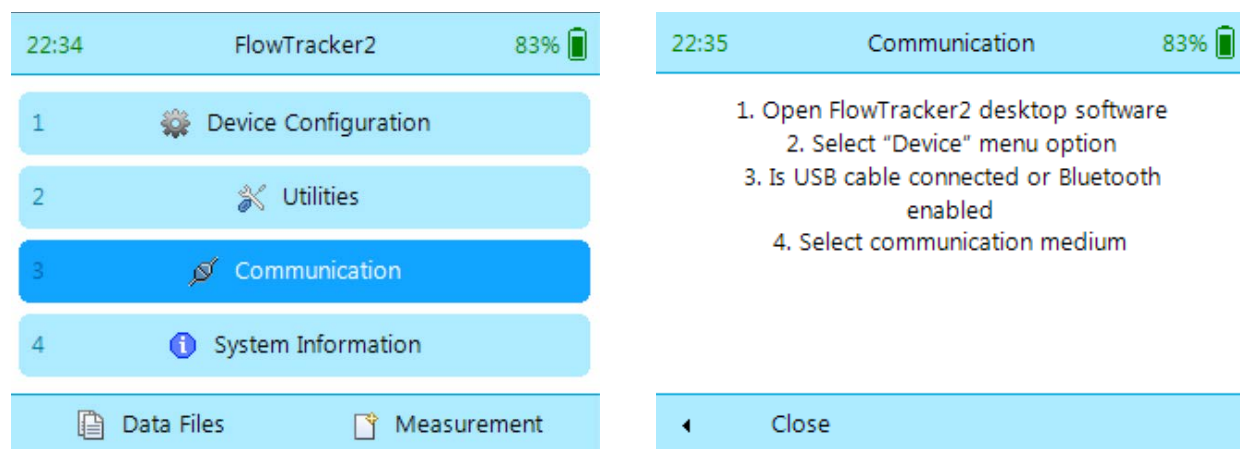

Figure 14:15. Communication dialog
- From the main menu, navigate to the Communications button (Left panel of Figure 14:15) and click the Center Key. The FlowTracker2 will wait for a signal from the PC, showing the screen in the right panel of Figure 14:15.
- Once successfully connected, the FlowTracker2 data files will be listed, as shown in Figure 14:16. The handheld will indicate that it is connected to your computer.